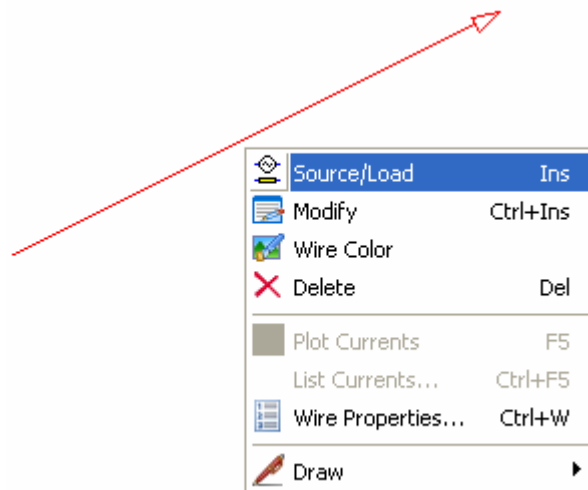
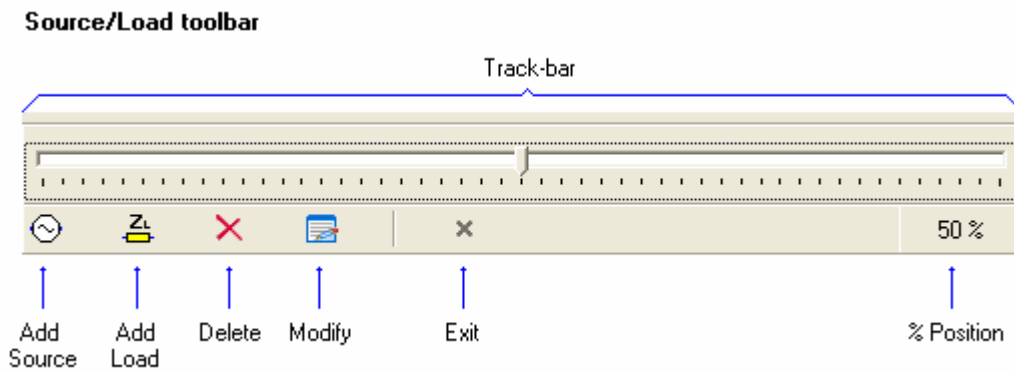

Fig. 8.3: Source/Load command in the pop-up menu.
Fig. 8.5: Source/Load toolbar.
By clicking with the right mouse button in any part of a wire a pop-up menu will be shown, Fig. 8.3. Choose the Source/Load command from the pop-up menu to display the Source/Load toolbar, Fig. 8.5.
1. By clicking with the right mouse button in any part of a wire a pop-up menu will be shown, Fig. 8.3.
2. Choose the Source/Load command from the pop-up menu to display the Source/Load toolbar, Fig. 8.5.